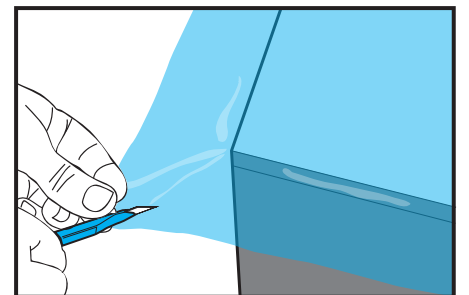

Figure 04
- › Diagonally cut the film starting from the corner of the table. (FIG. 04)